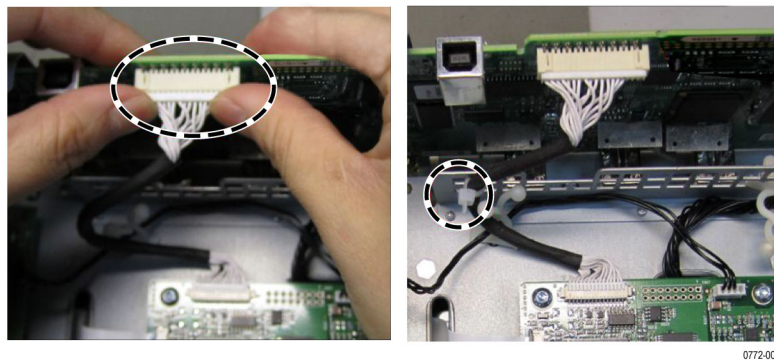

Figure 7: Connecting the Display cable
4. Connect the Display cable to J201 on the Main board as shown in the figure.(See Figure 7.)
5. Attach the Display cable to the chassis with a cable tie as shown in the figure. (See Figure 7.)